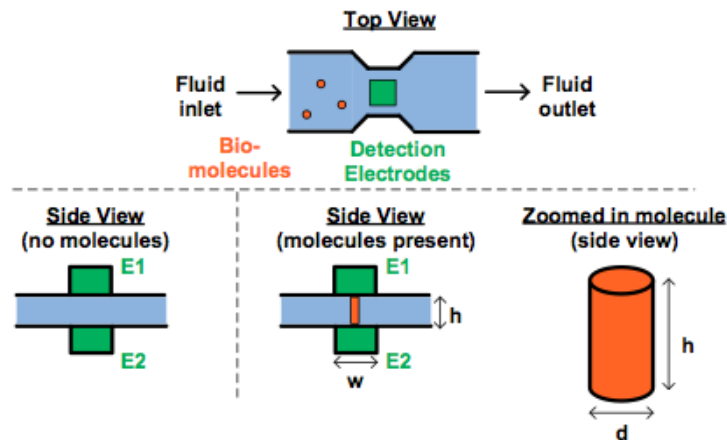

Figure 1: Bio-molecule detector.
As shown in Figure 1, the detector works by flowing a liquid that may or may not contain the biomolecules through a region in the device that has electrodes on the top and bottom of the liquid channel. The electrodes (E1/E2 in Figure 1) are chemically “functionalized” (using e.g. some appropriately designed antibodies), so that if the specific bio-molecule of interest is present in the fluid sample, one or more of the molecules will get physically trapped between the two electrodes (bottom right of Figure 1). After all of the fluid has been cleared out of the device (i.e., so that if there are no bio-molecules present, there is only air in between the two electrodes E1/E2), we can then figure out whether or not one or more bio-molecules were trapped by measuring the resistance between the two electrodes.
- Let's first assume that we want to detect the presence of a bio-molecule by measuring resistance. If no bio-molecule is present, what should be the resistance between E1/E2? As shown in Figure 1, if each bio-molecule is a cylinder with diameter  $d = 10\text{nm}$ , height  $h = 100\text{nm}$ , and has a resistivity  $\rho = 100\mu\Omega\text{m}$ , what would be the resistance between E1 and E2 if only a single bio-molecule has been trapped? Note that you can assume that the trapped molecule is exactly vertically oriented when it is trapped – i.e., the top and bottom faces of the molecule are both aligned with surfaces of the electrodes.